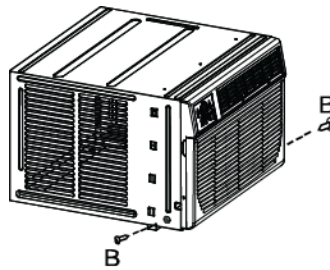

Figure 2
3. Remove front panel by removing 1 Phillips screw from each side of the front panel. Set screws aside and save. (Figure 2)